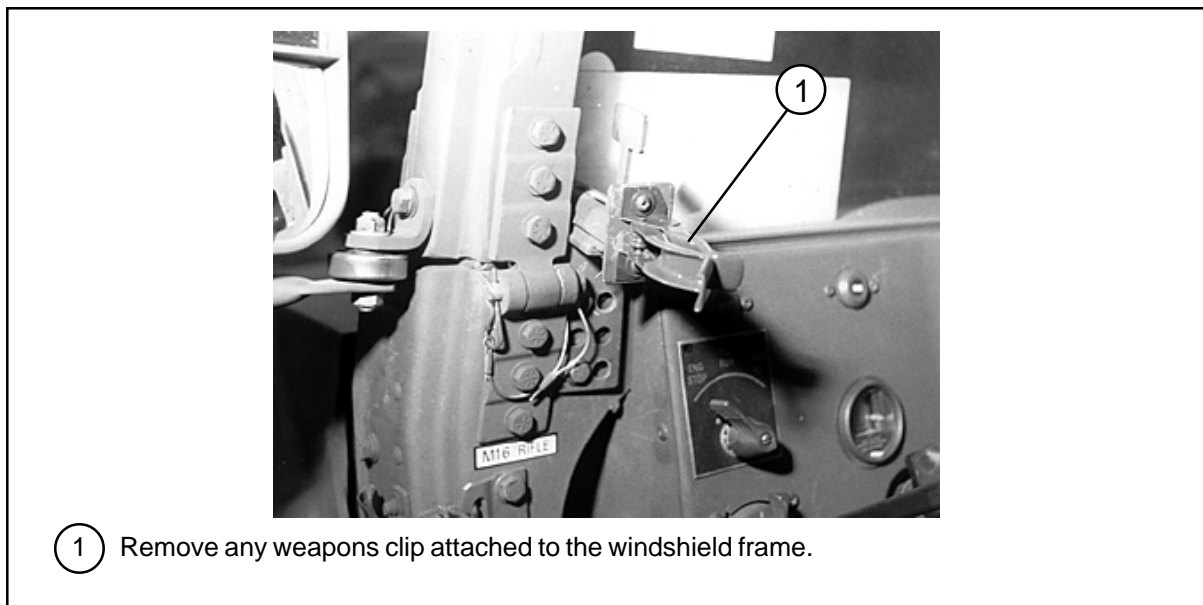

Figure 4-6. Weapons Clip
c. Prepare the cab of the truck as shown in Figure 2-8, and remove the rifle clips as shown in Figure 4-6.